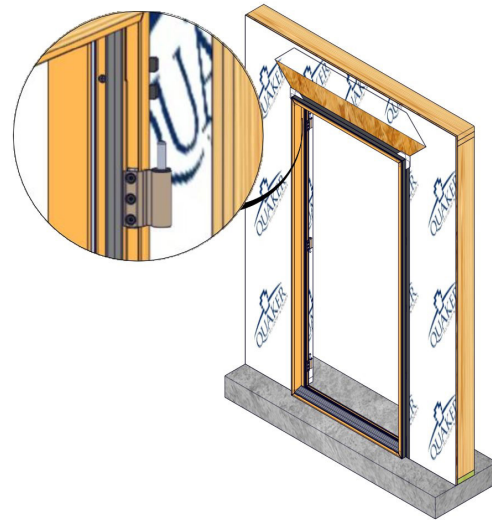

Fig. 11
2. Install and fasten the door unit in place using fasteners by others per anchorage calculations. **Quaker Window Products does not supply or claim liability for anchorage/fastener calculations. It is the installer/client's responsibility for structural adequacy of the anchorage and fasteners.** Typically, a #12 screw 6" from the top and bottom and 15" on center thereafter. (Fig. 11)